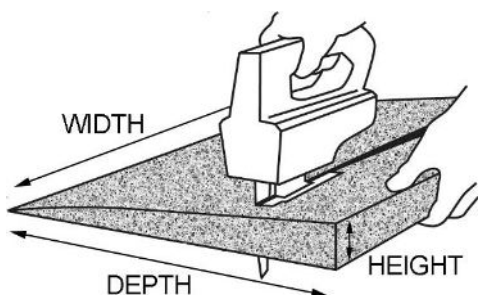

FIG. 2
- 5.1. The mat can be easily trimmed to accommodate lower heights and, if necessary, notched to suit the doorjamb configuration. If the raised landing is less than the height of the mat, trim mat to the desired height (FIG. 2).